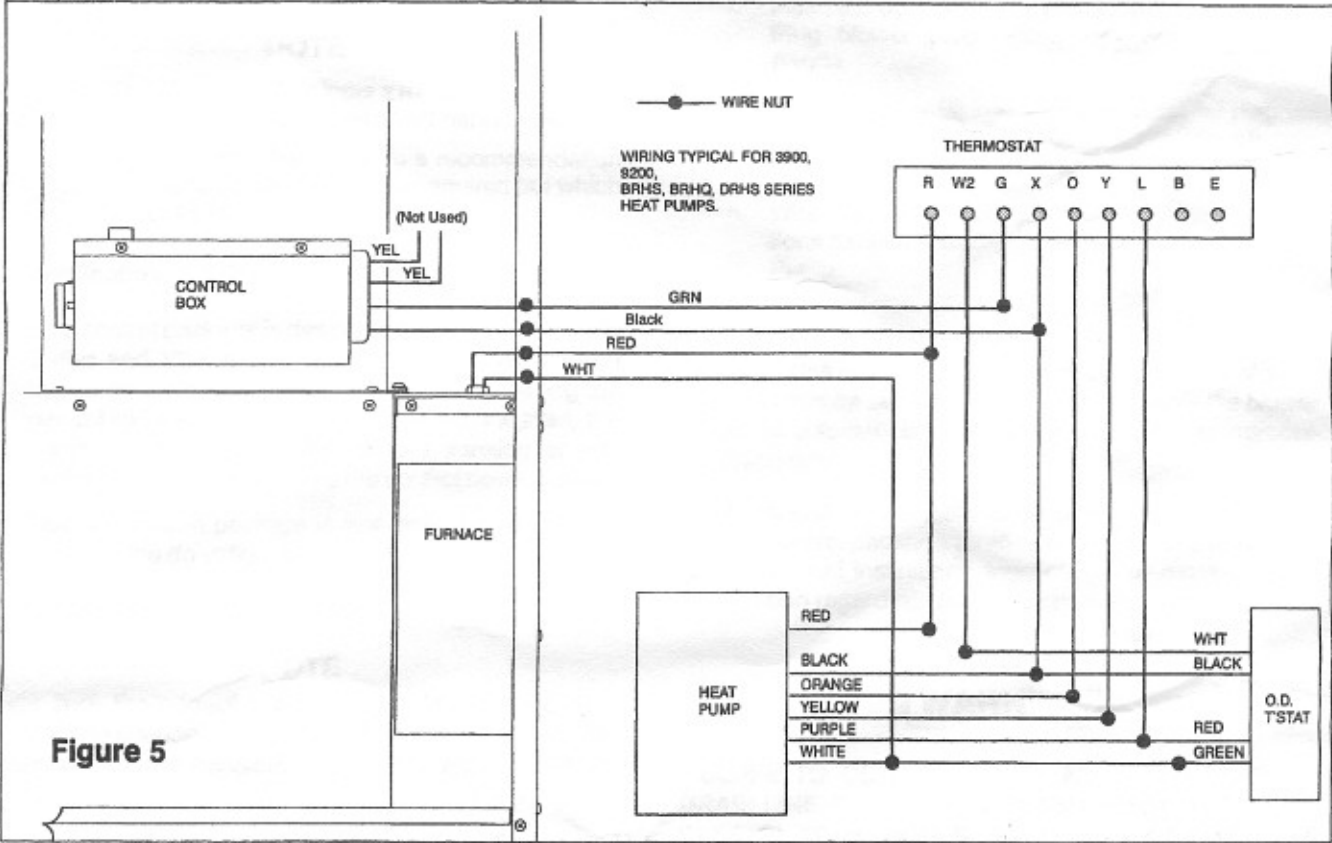

Figure 5
a. Attach the 4 low voltage wires extending from the control box as follows (refer to Figure 5):